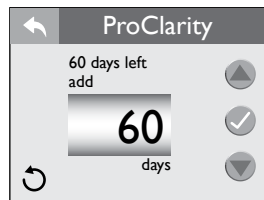

Figure 12.6e
1. From the “Water Care” Menu you can to set the “ProClarity” timer, Figure 12.6e.